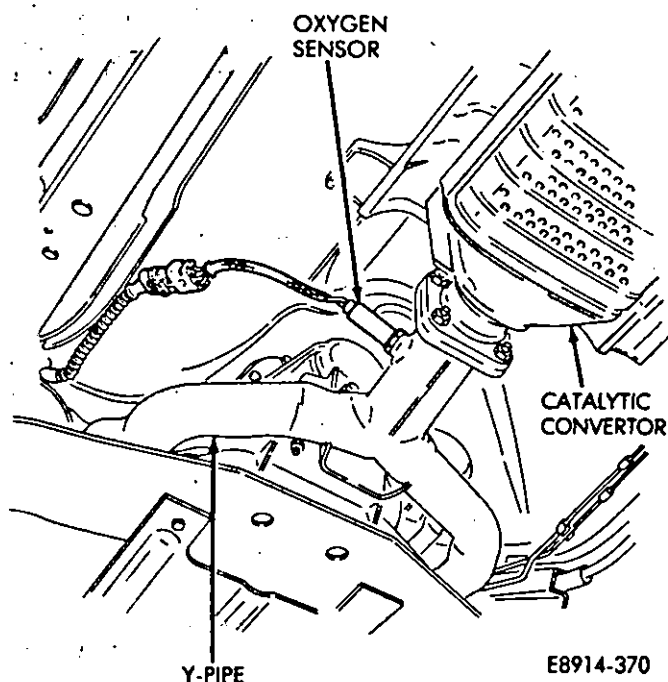

Fig. 5—Heated Oxygen Sensor—3.0L Engine
The oxygen sensor (Fig. 5) is located in the exhaust manifold and provides an input voltage to the engines' Electronic Control Unit (ECU) relating the oxygen content of the exhaust gas. The ECU uses this information to vary the air-fuel ratio. A lean air/fuel mixture causes a greater
The exhaust gas oxygen (O_2) sensor is located in the exhaust "Y" pipe before the catalytic converter (Fig. 5).
- (1) Raise the vehicle on a hoist.
- (2) Disconnect electrical connector from O_2 sensor (Fig. 5).
- (3) Unscrew O_2 sensor from the Y-pipe.
- (4) Clean the threads in the Y-pipe.